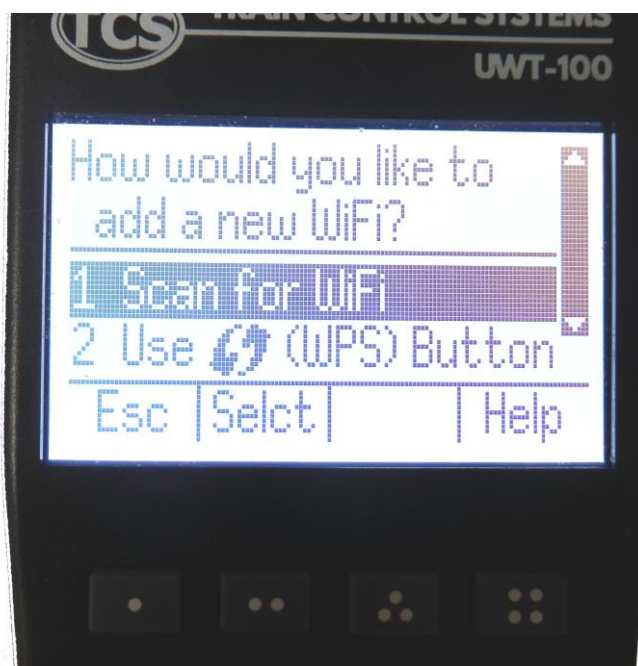

Figure 18 Select Scan for Wi-Fi
(3) Select option 1, Scan for Wi-Fi as Figure 18.